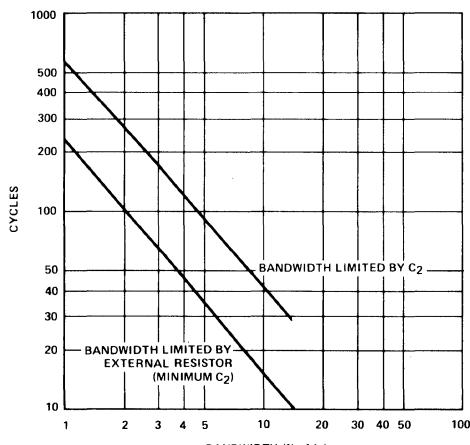
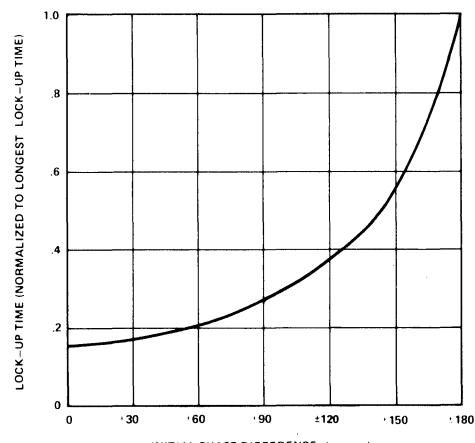
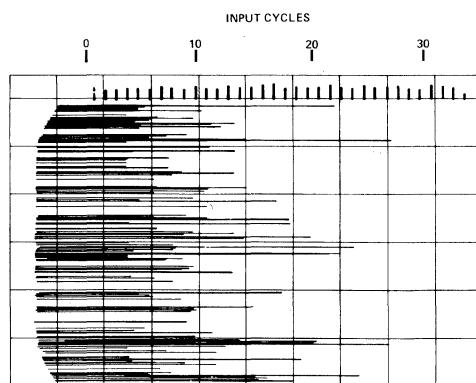

Figure 9-49
Figure 9-50
Figure 9-51
As previously discussed, the lock time of a loop can be minimized by reducing the response time of the low pass filter. Thus, C2 must be as small as possible. However, C2 also controls the bandwidth. Therefore, the response time is an inverse function of bandwidth as shown by Figure 9-49, reprinted from the 567 data sheet. The upper curve denotes the expected worst-case response time when the bandwidth is controlled solely by C2 and the input amplitude is 200mVrms or greater. The response time is given in cycles of center frequency. For example, a 2% bandwidth at a center frequency of 1000 cycles can require as long as 280 cycles (280ms) to lock when the initial phase relationship is at its worst. Figure 9-50 gives a typical distribution of response time versus input phase. Note that, assuming random initial input phase, only 30/180 = 1/6 of the time will the lock-up time be longer than half the worst case lock-up time. Figure 9-51 shows some actual measurements of lock-up time for a set-up having a worst case lock-up time of 27 cycles and a best-case lock-up time of four input cycles.
- After the center frequency has been set, adjust C2 to give the desired bandwidth or, if the graph of response time in cycles (Figure 9-51) suggests that worst-case lock-up time will be too long, incorporate the loop gain reduction scheme as an alternate means of bandwidth reduction. (See data sheet.)